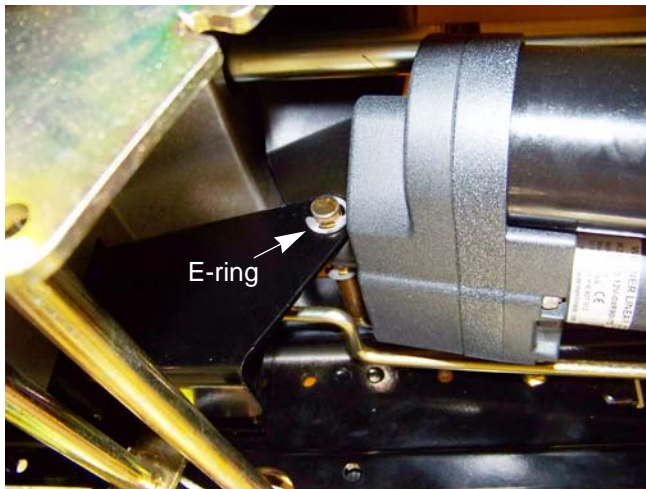

Figure 8.50
- 9a. Remove the left E-ring from the pin that connects the lift actuator to the frame. See Figure 8.50.